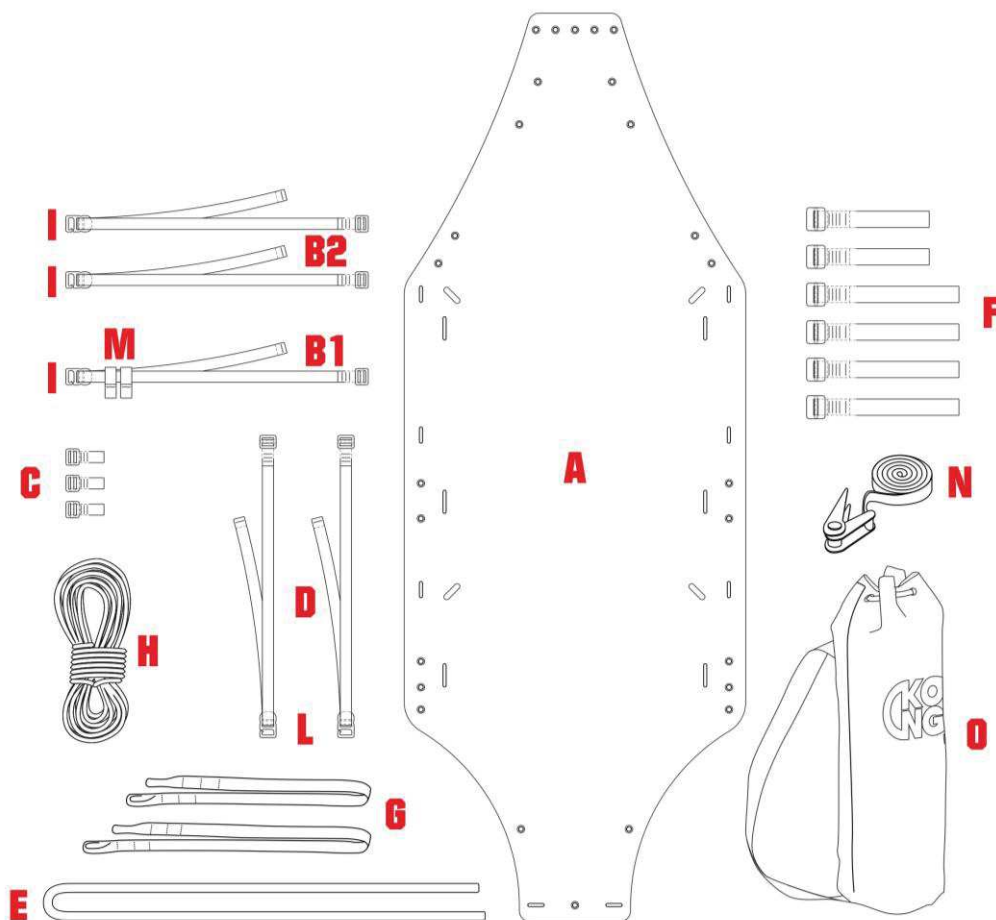

Fig. 1
2.1 - Terminology of parts and materials (figs. 1 and 2)